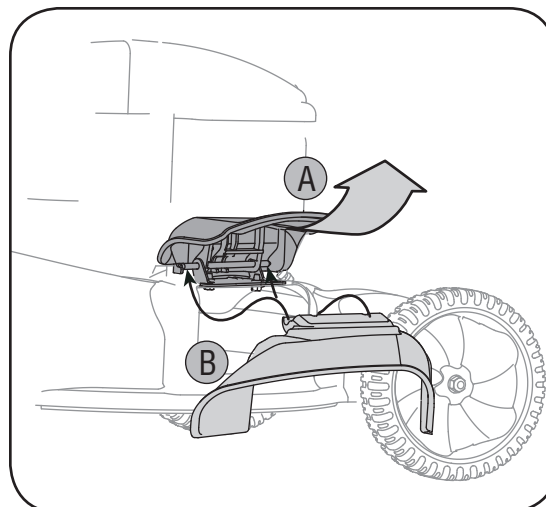

Figure 3-7
- Slide two hooks of side discharge chute under the hinge pin on the mulching plug assembly and lower the side mulching plug. See Figure 3-7.